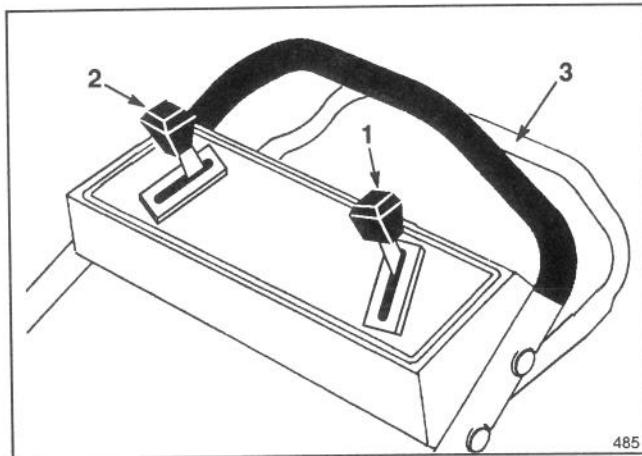
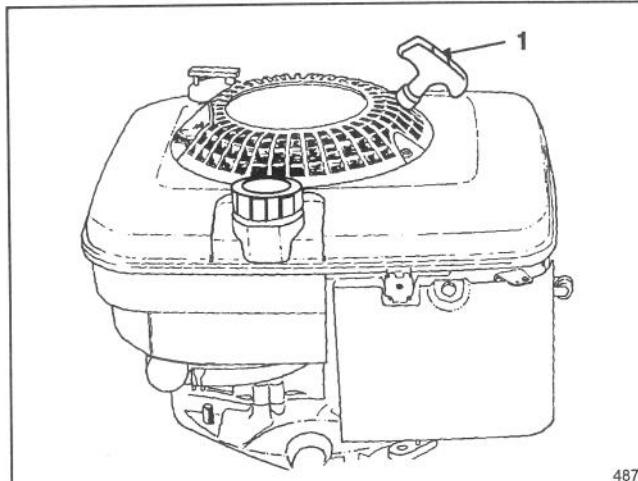

Figure 8
Figure 9
1. CONTROLS—Throttle, ground speed control and self-propel control bar are on upper handle (Fig. 8). Recoil starter is on top of engine (Fig. 9).
4. GROUND SPEED (Fig. 8)—Ground speed varies depending on distance between control bar and handle. Move ground speed control to desired setting. Number "1" is slow, "2" is medium, and "3" is a fast walking pace. Move ground speed control to "N" when using the mower for trimming and whenever leaving mower.
5. WHEEL TRACTION OPERATION (Fig. 8)—Move control bar into the RUN/SHIFT position. Move ground speed control to desired setting and squeeze control bar against handle to drive.